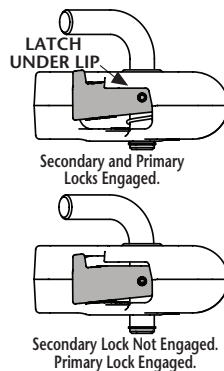

Figure 2
5. Push the latch closed. Verify that the primary and secondary locks engage. See Figure 2.